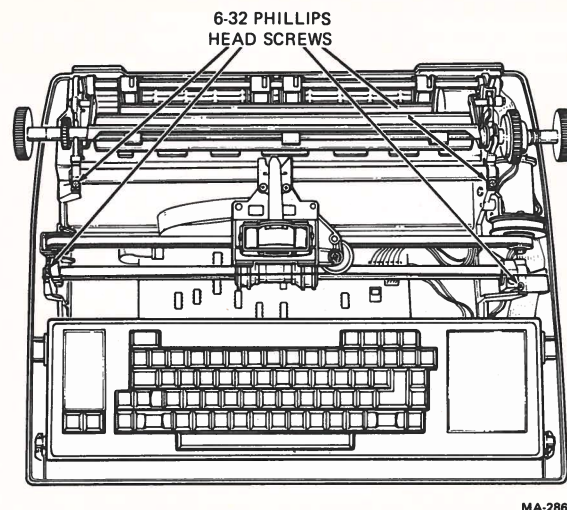

Figure 2-13 Printer Mechanism Removal
4. Remove the four hex-head screws that secure the printer mechanism to the base. (Figure 2-13).